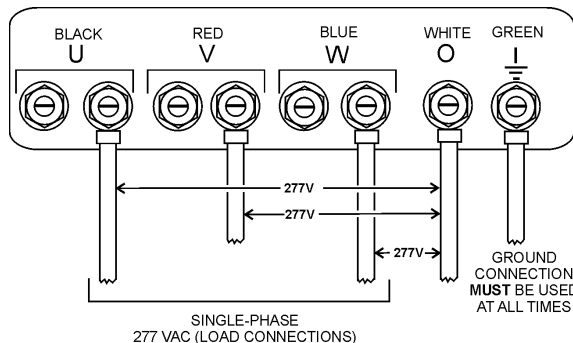

Figure 26. UVWO Terminal Lugs 1Ø-277V Connections
2. Connect the load wires to the UVWO terminals as shown in Figure 26.